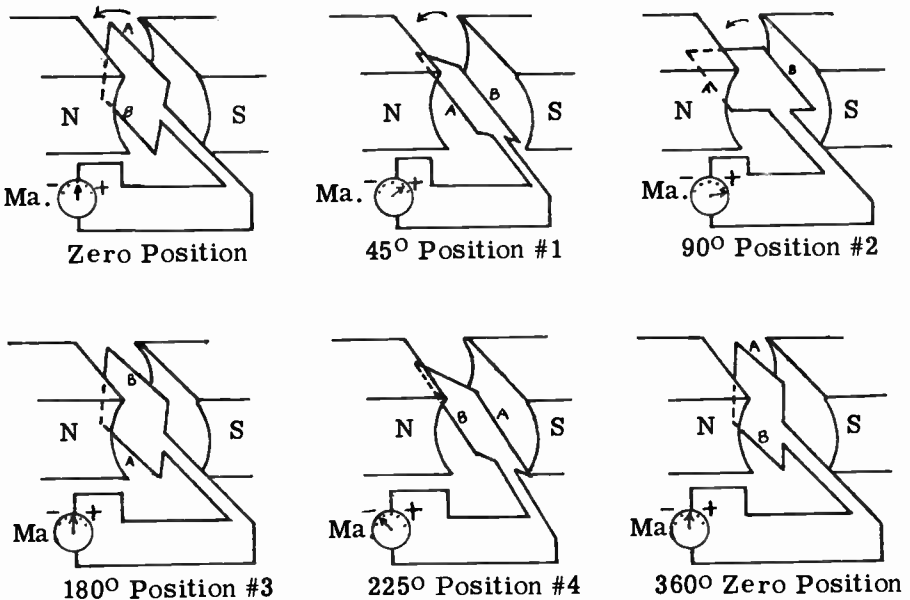
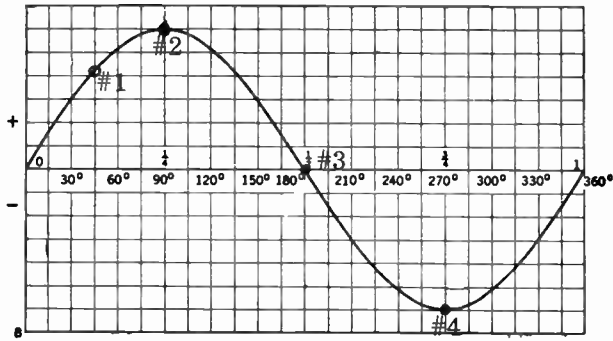

FIG. 4-1. GENERATING THE ALTERNATING CURRENT SINE WAVE.
FIG. 4-2. THE SINE WAVE.
**ALTERNATING CURRENT.** The three previous lessons dealt with direct current, a form of current that flows in one direction only. In this lesson, we will study alternating current (AC), a type of current that periodically reverses its direction of flow. Alternating current is produced by an AC generator or alternator.
**DEVELOPMENT OF THE AC WAVE.** Let us see how we can develop or generate AC. Fig. 4-1 shows a loop of wire which can be rotated between the poles of a magnet. (The magnetic field that exists between the North and South Poles is not shown in the diagram). If the loop of wire is rotated through the magnetic field, an electromotive force or voltage will be induced in the wire of the loop. This is because a conductor is cutting a magnetic field, and whenever this happens, a voltage is induced in the conductor. The voltage developed in the loop of wire will cause a flow of current. The milliammeter, in series with the loop, will indicate this current flow.
magnetic field, a maximum induced voltage will be generated. When the conductors of the loop are moving parallel to the magnetic field, no flux will be cut and therefore, no voltage will be generated. If the loop is rotated at a constant speed in a counterclockwise direction, a current will flow and its strength and direction will vary with different positions of the loop. The strength and direction of the current for different loop positions are indicated in Fig. 4-1. Fig. 4-2 is a graph showing the relationship between the amount of current and the different positions of the loop. Let us see exactly what happens at the various loop positions. At zero position, the loop begins its rotation with the ammeter indicating zero current. (The conductors of the loop are moving parallel to the magnetic flux; therefore, no induced e.m.f. will be generated.) When the loop has reached position #1 (45 degrees), the current flow, which is indicated on the meter, is in a direction which we shall arbitrarily call positive. When the loop has reached position #2 (90 degrees), the current is at a maximum, since the conductors are cutting into the magnetic field at right angles. The current flow is still in a positive direction. From position #2 to position #3, the current decreases in value, but is still positive. At position #3 (180 degrees) the current is zero once again, as it was at the start. This is because the conductor is moving parallel with the magnetic field and is not actually cutting it. From position #3, through #4 and back to the starting position, the current goes through the same changes as it went through from starting position (zero degrees) to position #3 (180 degrees). However, from position #3 to position zero, the direction of the current has reversed itself and is now considered negative. This is because the loop of wire is now cutting the magnetic field in the opposite direction. The opposite of positive is negative, and this is shown on the graph by drawing the curve below the horizontal center line. The curve of Fig. 4-2, representing the varying current through the loop, is a waveform known as the ALTERNATING CURRENT wave. The mathematical name for a fundamental alternating current wave is a SINE WAVE.